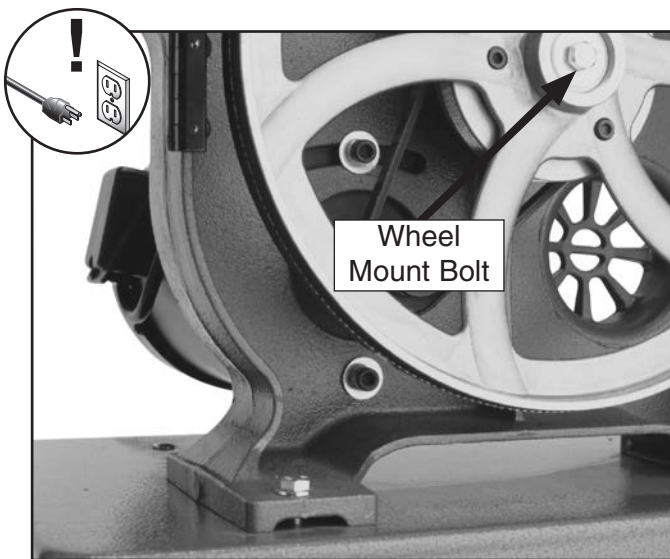

Figure 55. Wheel mount bolt.
4. Loosen motor mount bolt shown in **Figure 55**.
7. Unthread wheel mount bolt shown in **Figure 55**, and slide lower wheel off of bearing shaft.